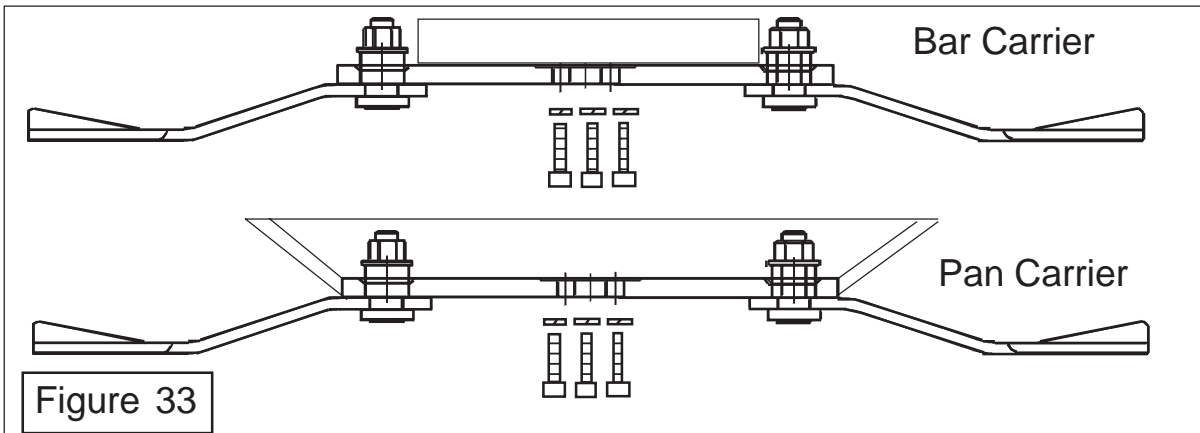

Figure 33
1. There are 2 blade carrier options, Blade Bar or Blade Pan (figure 33). The carrier are bolted to the spindle with 4 socket head bolts. These bolts length are to be used with a particular carrier option. **ALWAYS** use the same length and quality bolt that was removed when changing bolts. **Damage will result if wrong bolts are used**, refer to the replacement parts manual for correct bolt numbers to match the carrier option being used.
2. Install the blade bar or pan using the correct 4 bolts & lockwashers. Use a suitable locktite on the bolts. Torque the bolts to 400 ft. lbs. using a progressive torque and staggered tightenin pattern (figure 33).